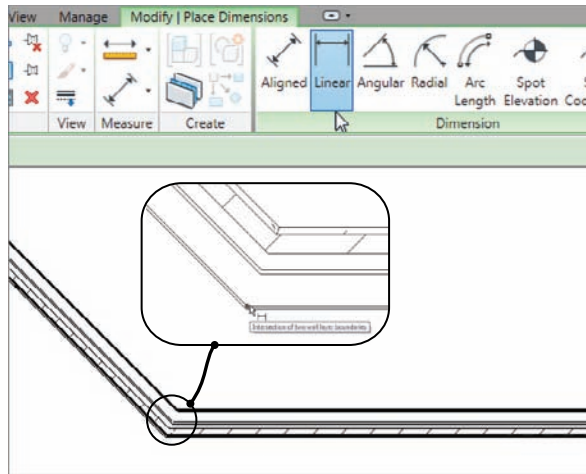

FIGURE 5.16 Selecting the finished exterior corner of the brick. You will see a small blue dot appear, indicating you can pick the start of the dimension.
3. Move your cursor over the inside corner, at the bottom intersection of the corridor. Make sure you are exactly over the exterior intersection of the brick. You will know you are there by the blue dot that shows up, as shown in Figure 5.16.